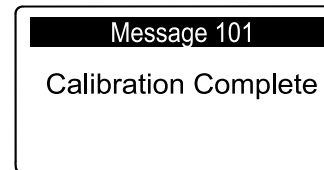

Figure 70
**Note:** the CALIBRATION COMPLETE message displays (Figure 70), and the head fully raises.